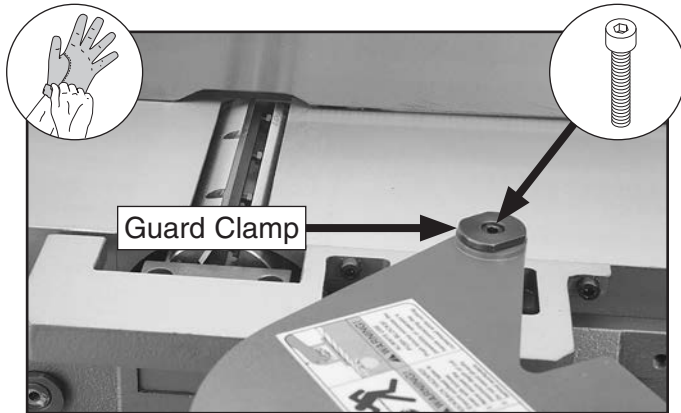

Figure 2. Location of cutterhead guard clamp and cap screw.
- Put on heavy leather gloves and loosen cap screw securing cutterhead guard clamp just enough so cutterhead guard moves freely (see **Figure 2**). DO NOT remove cap screw.